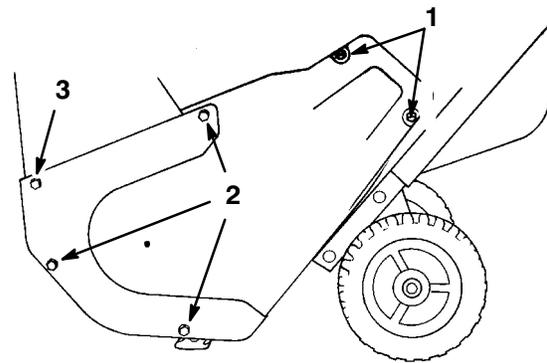

Figure 19
- Remove three self-tapping screws, three cap screws, a washer, and three nuts that secure the left side cover to the snowthrower frame (Fig. 19).